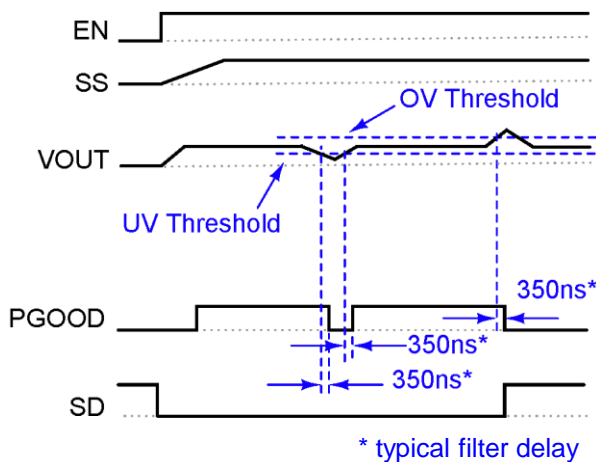

Figure 21. Under/Over Voltage Monitor
The IR3865 monitors the voltage at the FB node through a 350ns filter. If the FB voltage is below the under voltage threshold, UV# is set to LOW holding PGOOD to be LOW. If the FB voltage is above the over voltage threshold, OV# is set to LOW, the shutdown signal (SD) is set to HIGH, MOSFET gates are turned off, and PGOOD signal is pulled low. Toggling VCC or EN will allow the next start up. Figure 21 and 22 show PGOOD status change when UV/OV is detected. The over voltage and under voltage thresholds can be found in the *Electrical Specification* section.